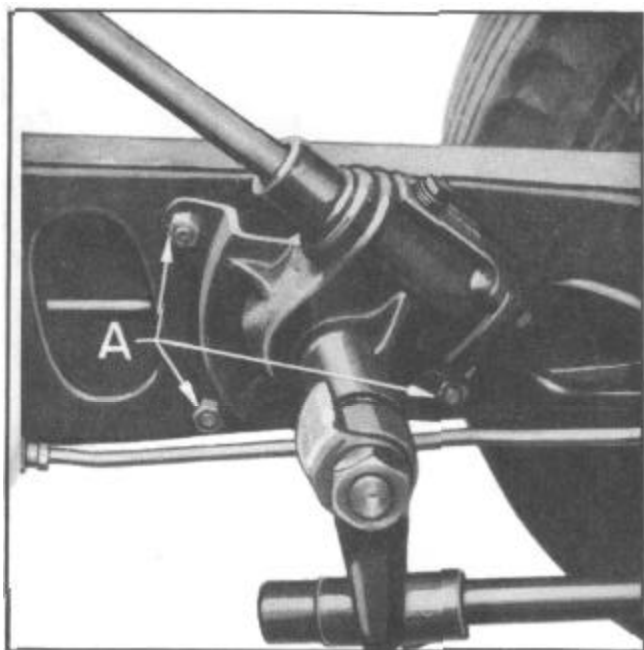

Figure 1--Steering Gear Mounting
The steering gear bolts to the frame side member front reinforcement on the inside of the frame with the gear shaft on which the ball arm assembles pointing to the inside. Three serrated neck bolts (A)-Figure 1 attach the gear to frame.